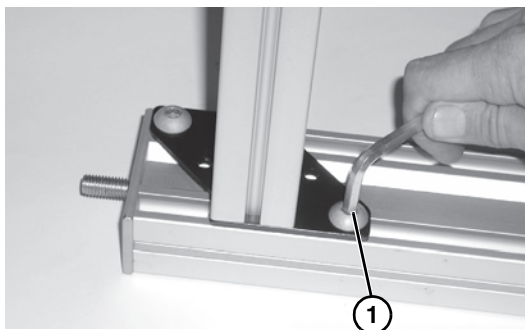

Figure 5
6. Tighten four button head screws (**Figure 5, item 1**) to 150 in-lb (17 N-m).